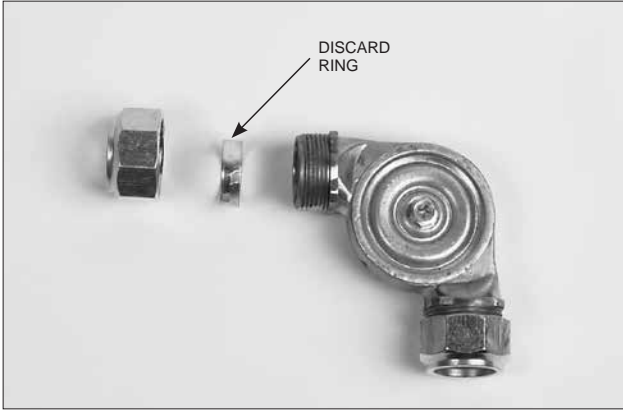

FIGURE 4-49
1. Unscrew the nut from pulley elbow, pulley tee, or EMT conduit connector and remove the compression ring. Discard ring. See Figure 4-49.